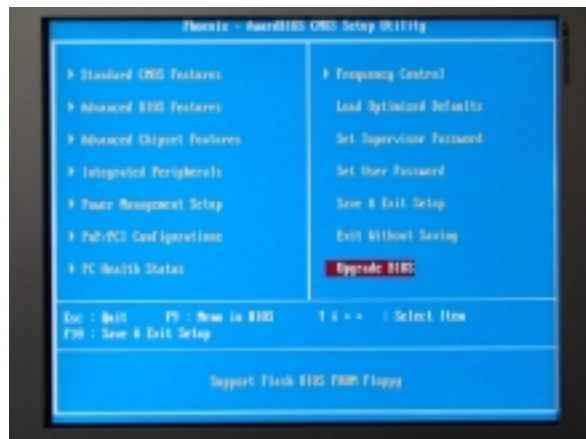

Figure 1
5. Select " Upgrade BIOS " item then press Enter, refer to Figure 1.